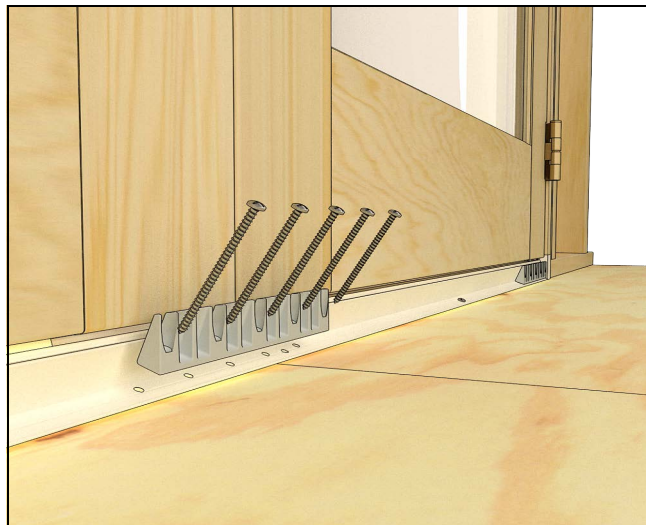

Figure 27
2. On operating units, locate the sill reinforcement bracket attached to the sill. Center the bracket at operating panel joints, or at the outer edge of the sill on locking jamb operating units. Install bracket with five #10 X 3" screws. See Figure 27.